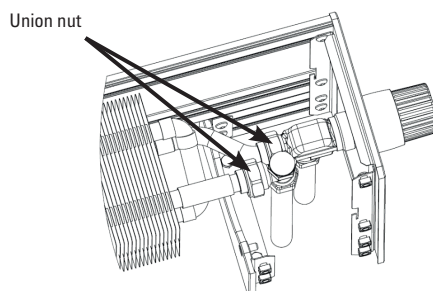

FIG. 5: Close-up view of the connection between the valves and the heat exchanger (the heat exchanger design differs according to the model).
- › Replace the heat exchanger in the casing and connect it to the installed valves on the heating water pipes, Fig. 5.